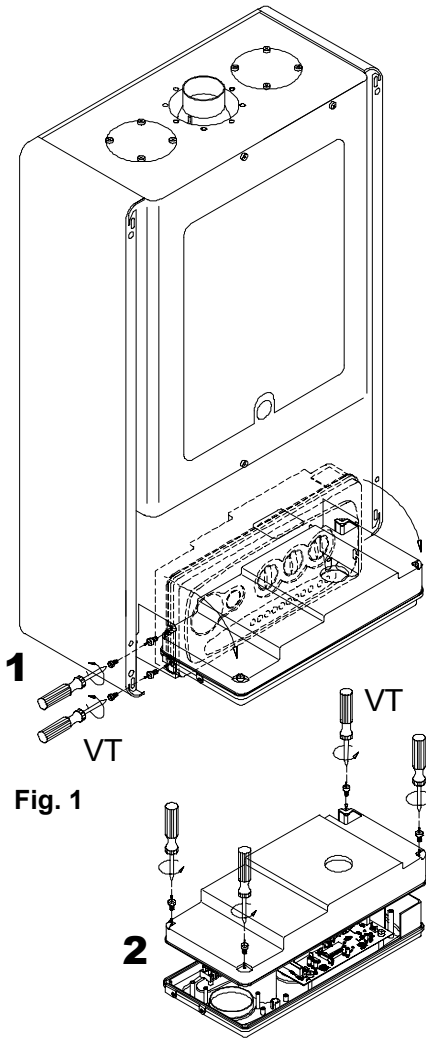

Fig. 1
- C. Undo the two side screws on the panel using the VT screwdriver and turn it to the position shown in fig.1 (pos. 1).
- D. After pulling the panel downwards, undo the four rear screws on the housing and open the electrical control box by lifting the cover as shown in fig.1.
- Connect the yellow/green wire to the terminal marked with the earth symbol "⏏" (see fig.1).